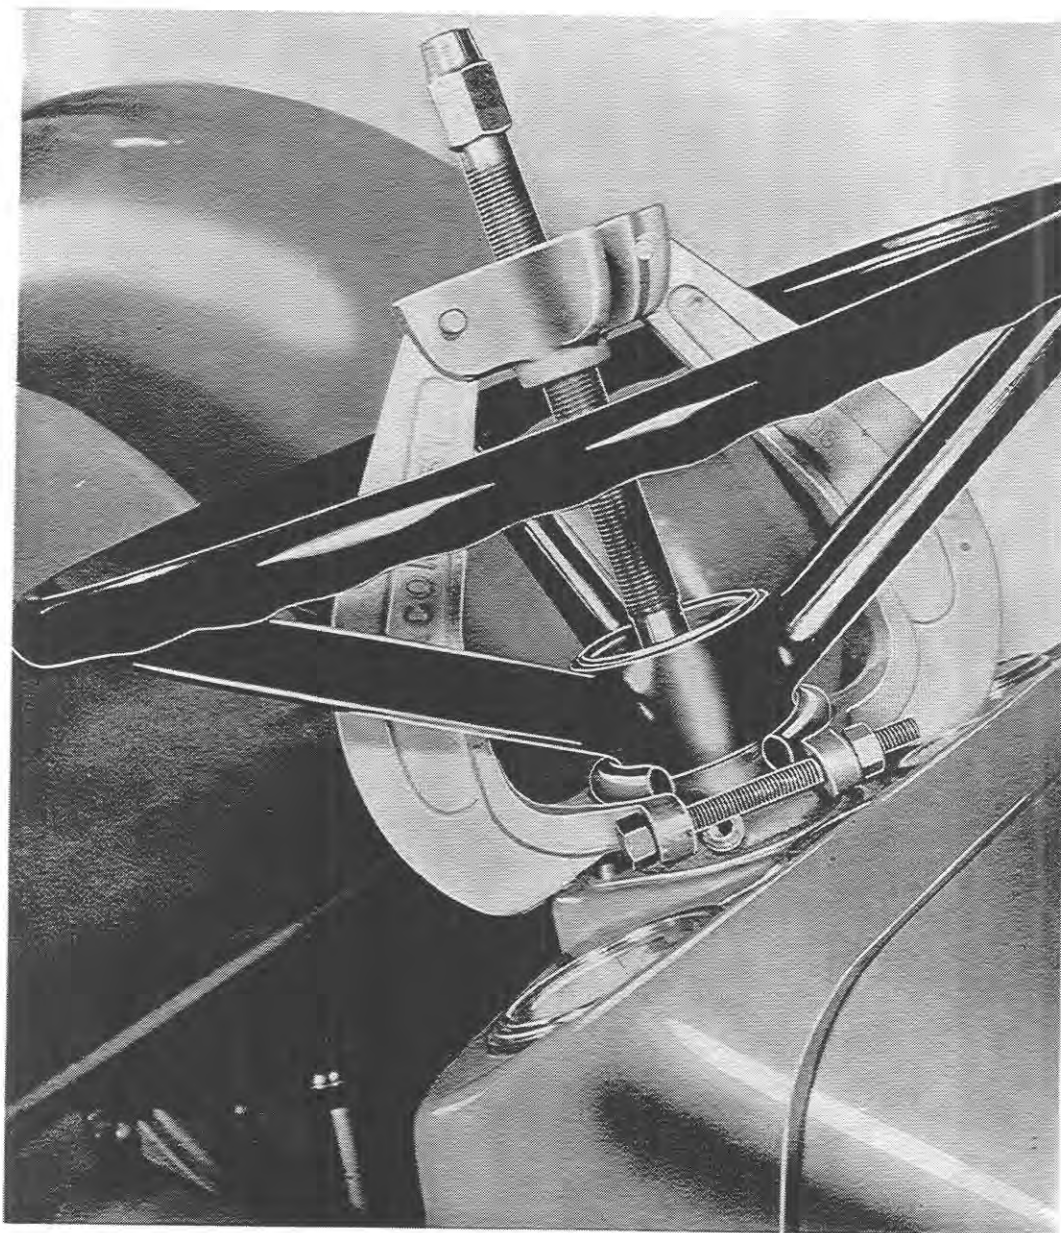

Fig. 1
- 4) Put a puller, with protective covering on its arms, on the steering wheel and remove the steering wheel (Fig. 1).